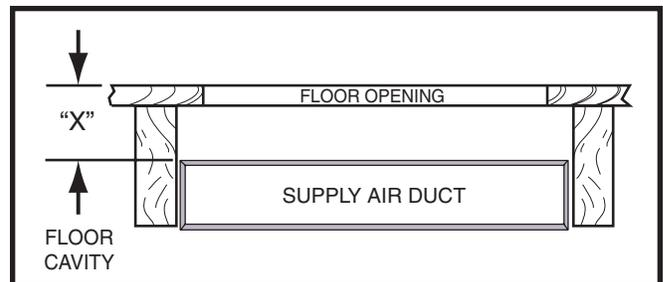

Figure 6. Floor Cavity
**NOTE:** The depth of the floor cavity (shown as "X" in Figure 6) will determine the correct duct connector.